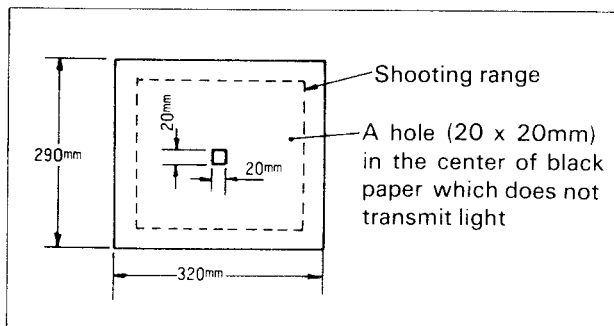

Fig. 70
- 7) Shoot the chart as shown in Fig. 70.